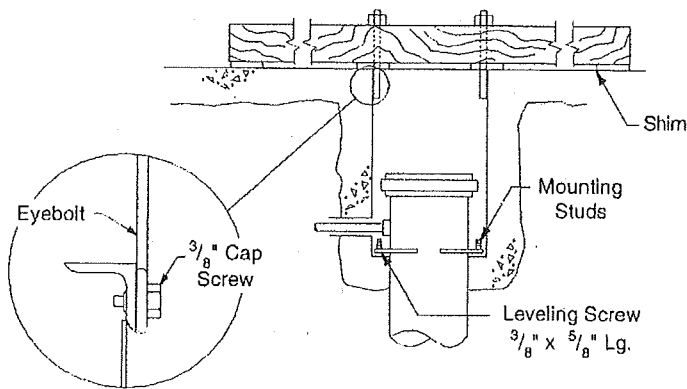
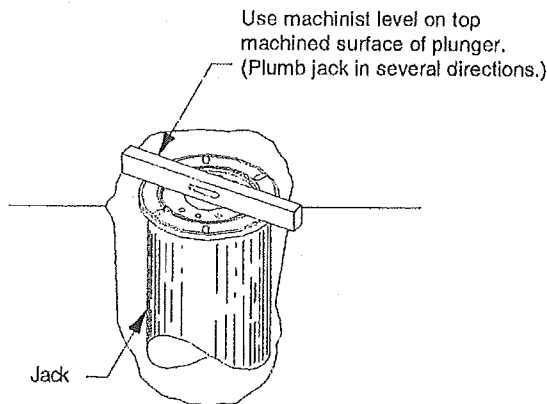

Fig. 5
Fig. 6
- Screw four (4) $\frac{3}{8}$ " x $\frac{5}{8}$ " leveling bolts into brackets of rear jack but not thru plate, Fig. 5. Remove housing doors and hinges to prevent damage. Support jack and slide housing over bottom of jack until mounting studs line up with jack brackets. Jack brackets must be on top side of housing supports. Turn jack fluid inlet to hole in housing. Secure jack to housing with four (4) $\frac{1}{2}$ " hex nuts and washers. Install fluid inlet cover with six (6) $\frac{1}{4}$ " x $\frac{1}{2}$ " RHMS and nuts.
- Guide 4" rear pipe chase into hole in housing. Level jack with machinist level across top of plunger, Fig. 6 by adjusting the $\frac{3}{8}$ " leveling bolts in jack brackets, Fig. 5.
H. Recheck plunger level and adjust if necessary. Backfill over concrete pad with clean sand. Hand tamp often, but not too hard. Stop backfill 6" below housing bottom. Recheck housing position and plunger level and adjust if necessary, Fig. 6.